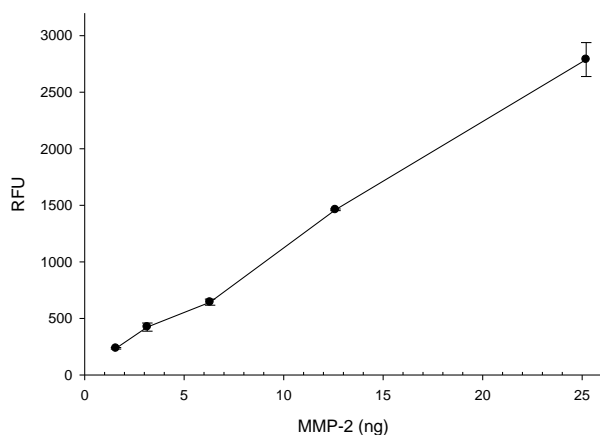

Figure 1. Detection of MMP-2 activity with the SensoLyte[®] 520 MMP-2 assay kit.
- Plot data as RFU versus concentration of test compounds or enzyme concentration (**Figure 1**).